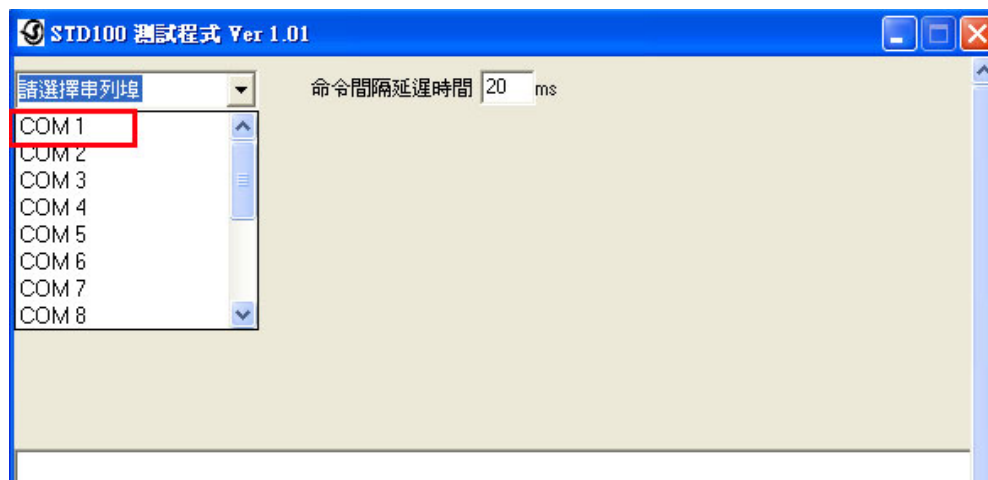

Figure 3-31: Smart Card Reader Testing 1
Step 3: The STD100 testing program appears. Select **COM1** from the drop down menu as shown in **Figure 3-31**.